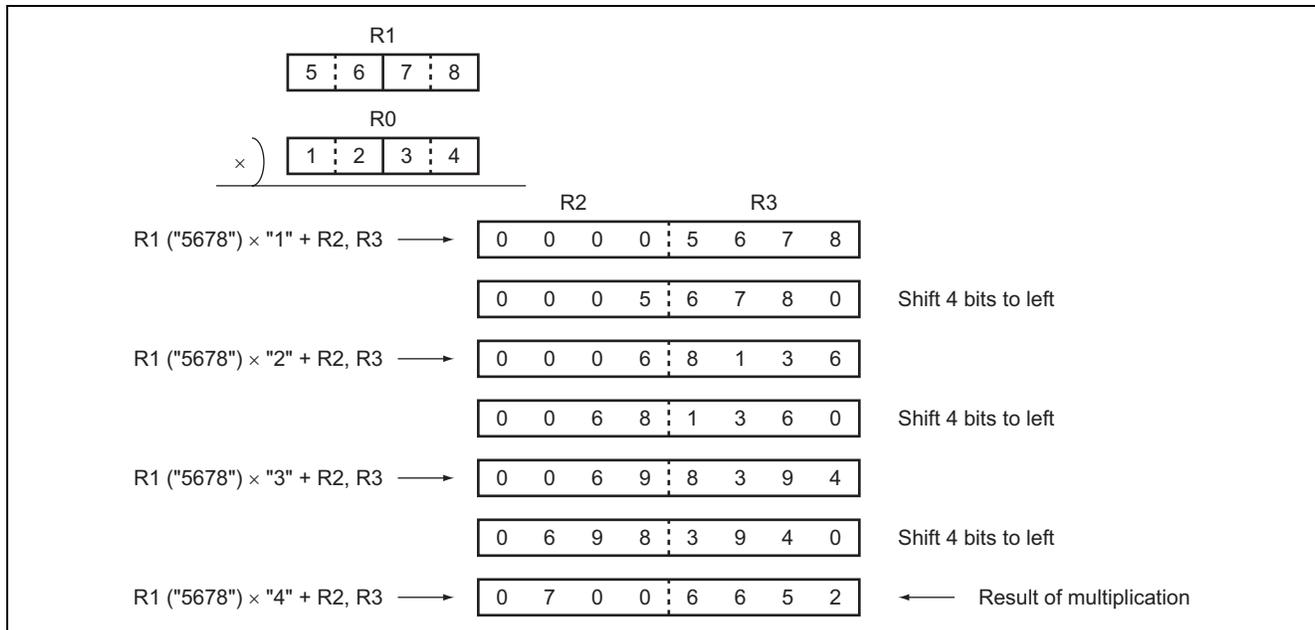

Figure 3 Example of Multiplication (5678 × 1234)
- Multiplication of decimal numbers can be done by performing a series of additions and shifts. Figure 3 shows an example of the multiplication (5678×1234).
Figure 3 illustrates the method used to find the product by repeatedly adding the multiplicand, multiplied by the respective digits of the multiplier from the leftmost digit, to the result and then shifting the result.